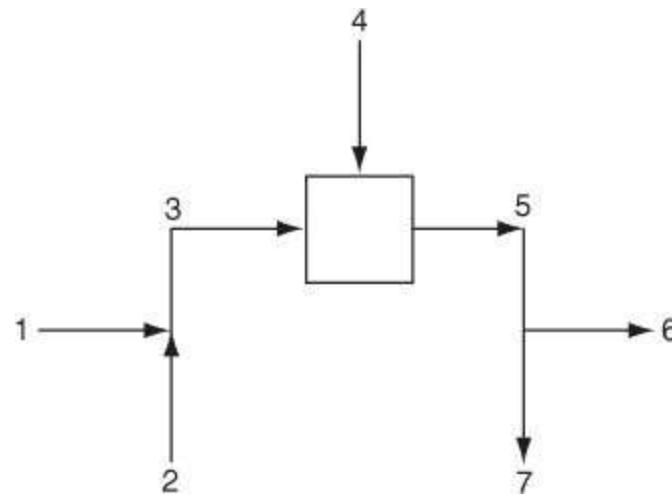
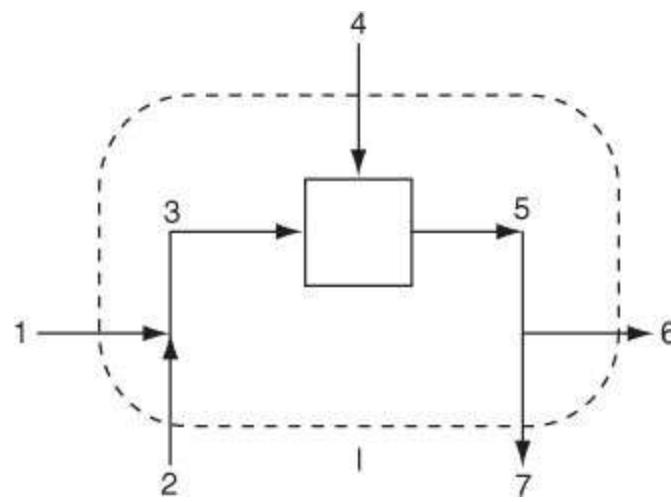
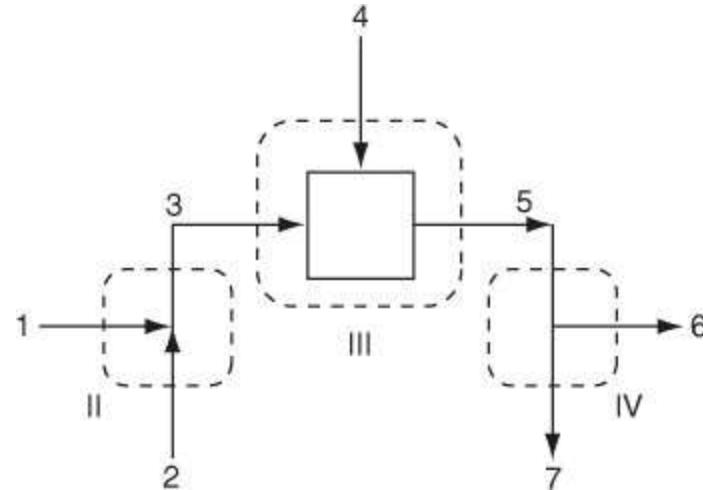

Figure 6.3a. Serial mixing and splitting in a process without reaction
Figure 6.3b. The dashed line I designates the boundary for an overall total material balance made on the system in Figure 6.3a.
Figure 6.3c. Dashed lines II, III, and IV denote the boundaries for material balances around each of the individual units constituting the overall process.
Let's first examine a multi-unit system composed of a sequential combination of units. Figure 6.3a illustrates a sequential combination of mixing and splitting stages. Streams 1 and 2 combine to form the first mixing point, streams 3 and 4 also combine in the box for the second mixing point, and stream 5 splits (at presumably a pipe junction) into streams 6 and 7. Note that the first mixing point occurs at the combination of streams 1 and 2 (presumably a junction of pipes) while the second mixing occurs where streams 3 and 4 enter the box (presumably representing a process). You will encounter both types of mixing in the problems and examples in this book and in flowsheets in professional practice.
Examine Figure 6.3a. Which streams must have the same composition? Do streams 5, 6, and 7 have the same composition? Yes, because streams 6 and 7 flow from a splitter. Do streams 3, 4, and 5 have the same composition? It's quite unlikely. Stream 5 is some type of average of the compositions of streams 3 and 4 (in the absence of reaction). What is the composition inside the system (the box)? It will have the same composition as stream 5 only if streams 3 and 4 are really **well mixed** in the subsystem represented by the box.
How many material balances can you formulate for the system and subsystems shown in Figure 6.3a? First, let's examine how many total material balances you can write. You can write an **overall total material balance**, namely, a total balance on the system that includes all of the three subsystems
within the overall system boundary, which is denoted by the dashed line labeled I in Figure 6.3b.
In addition, you can make a total balance on each of the three subsystems that make up the overall system, as denoted by the boundaries indicated by the dashed lines II, III, and IV in Figure 6.3c. Finally, you can make a balance about each of the combinations of two subsystems as indicated by the dashed-line boundaries V and VI in Figures 6.3d and 6.3e, respectively.
You can conclude for the system shown in Figure 6.3a that you can make total material balances on six different combinations of subsystems.
The important question is: How many independent material balance equations can be written for the process illustrated in Figure 6.3a if more than one component exists? In Section 6.1 we stated that you can write one independent equation for each component in each subsystem except for the splitter, for which you can write only one independent material balance equation. For Figure 6.3a, assume that three components are present in each of the separate subsystems shown in Figure 6.3c. You can write three independent material balance equations about the first pipe junction, three for the box, plus one independent equation for the splitter, for a total of seven (7) independent material balance equations. How many material balances are possible if you include *all of the redundant equations*, total as well as component balances?
Figure 6.3b: 3 components plus 1 total
Figure 6.3c: $3 \times 3 = 9$ components plus 3 total
Be careful to **select an independent set of equations**. As an example of what not to do, do not select three component balances for (a) the first pipe junction shown in Figure 6.3c, (b) the box, and (c) one balance for the splitter plus an overall total balance (Figure 6.3b). This set of equations would not be independent because, as you know, the overall balance is just the sum of the respective species balances for the individual unit. However, the total balance could be substituted for one of the component balances.